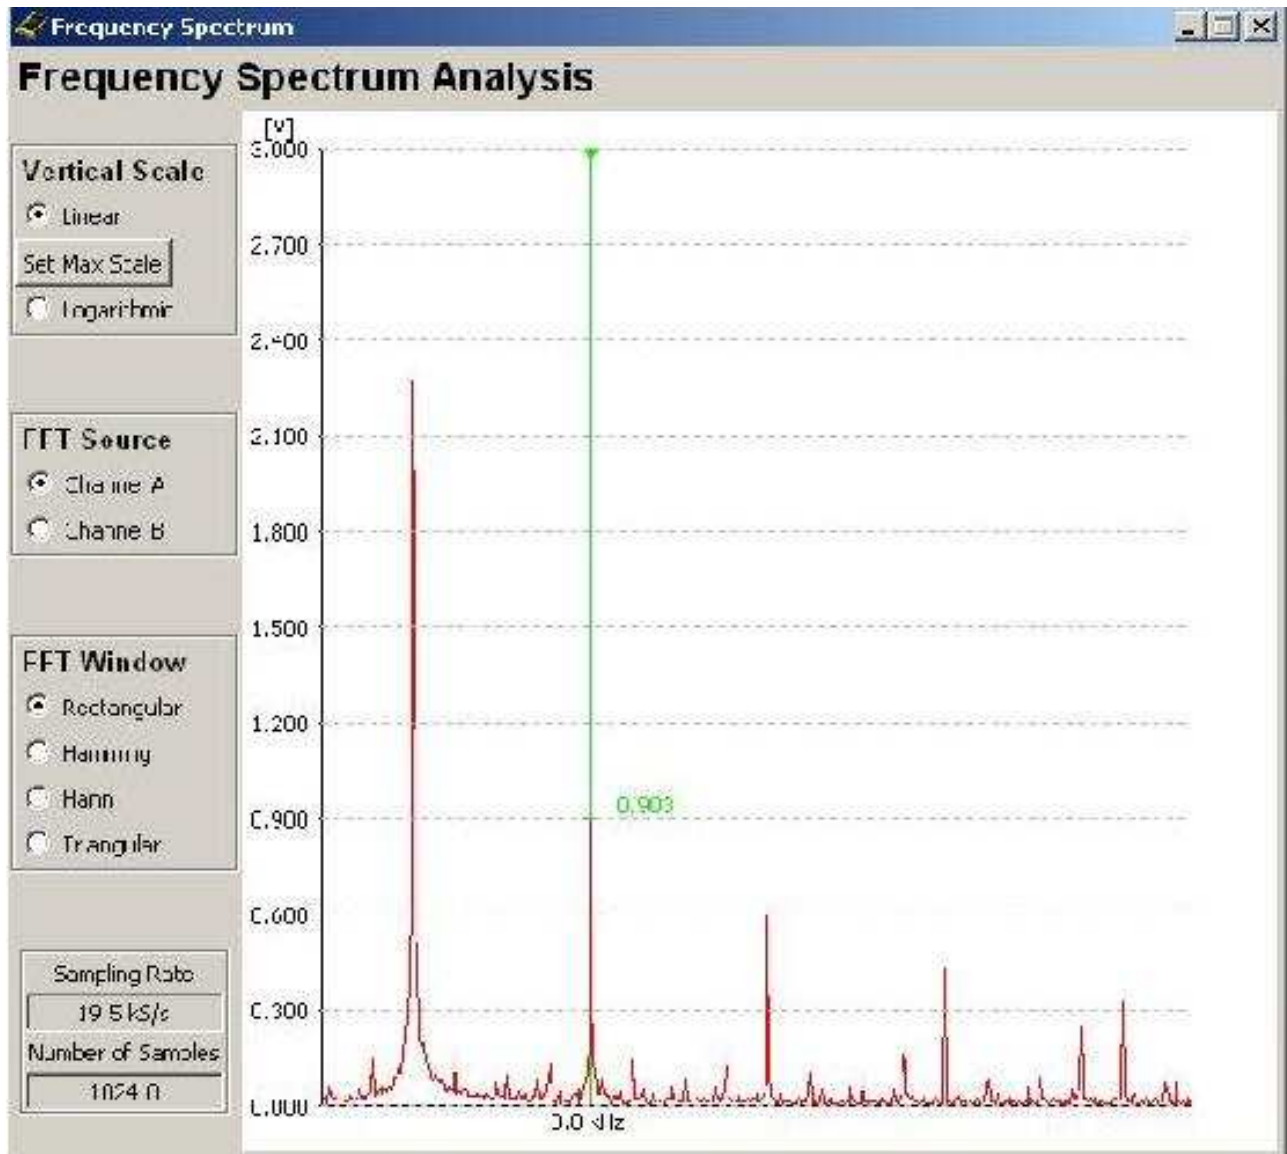

Figure 11: Square Wave Spectrum
Clicking on Tools -> Spectrum Analysis brings up the spectrum analysis display of figure 11. The displayed spectrum in this image is a 10kHz square wave.
- The Effective Sampling Rate is shown in a readout at the bottom right corner of the spectrum display. This is important: the sampling rate must be at least twice the frequencies being analysed to avoid aliasing. Put another way, there must not be frequency components above the Nyquist rate, which is half the sampling rate. In the example shown in figure 11, the sample rate is 20kHz. The frequency components range from 1kHz to 9kHz, below the Nyquist rate of 10kHz5.
will be only approximate. For example, in figure 11, the square wave frequency (generated by a Syscomp WGM-101 waveform generator) is at a frequency 1kHz to within a fraction of a Hz. The 9th harmonic is at 9kHz. The spectrum display readout puts the 9th harmonic at 9.0234 Hz, which is approximately correct.
Determine the frequency resolution (bin spacing) for the case of the display of figure 11.